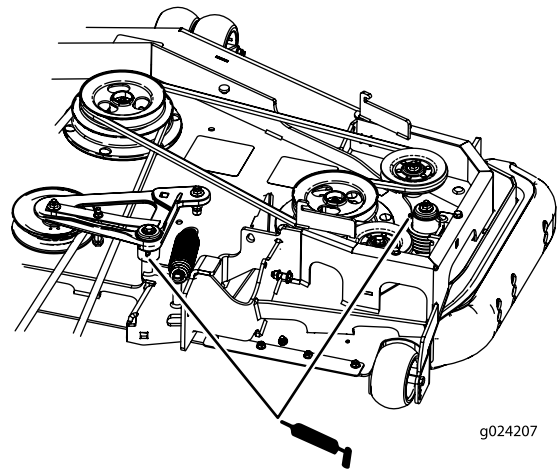

Figure 51
5. Grease the deck-belt idler arms (rear discharge machines only) as shown in Figure 51.